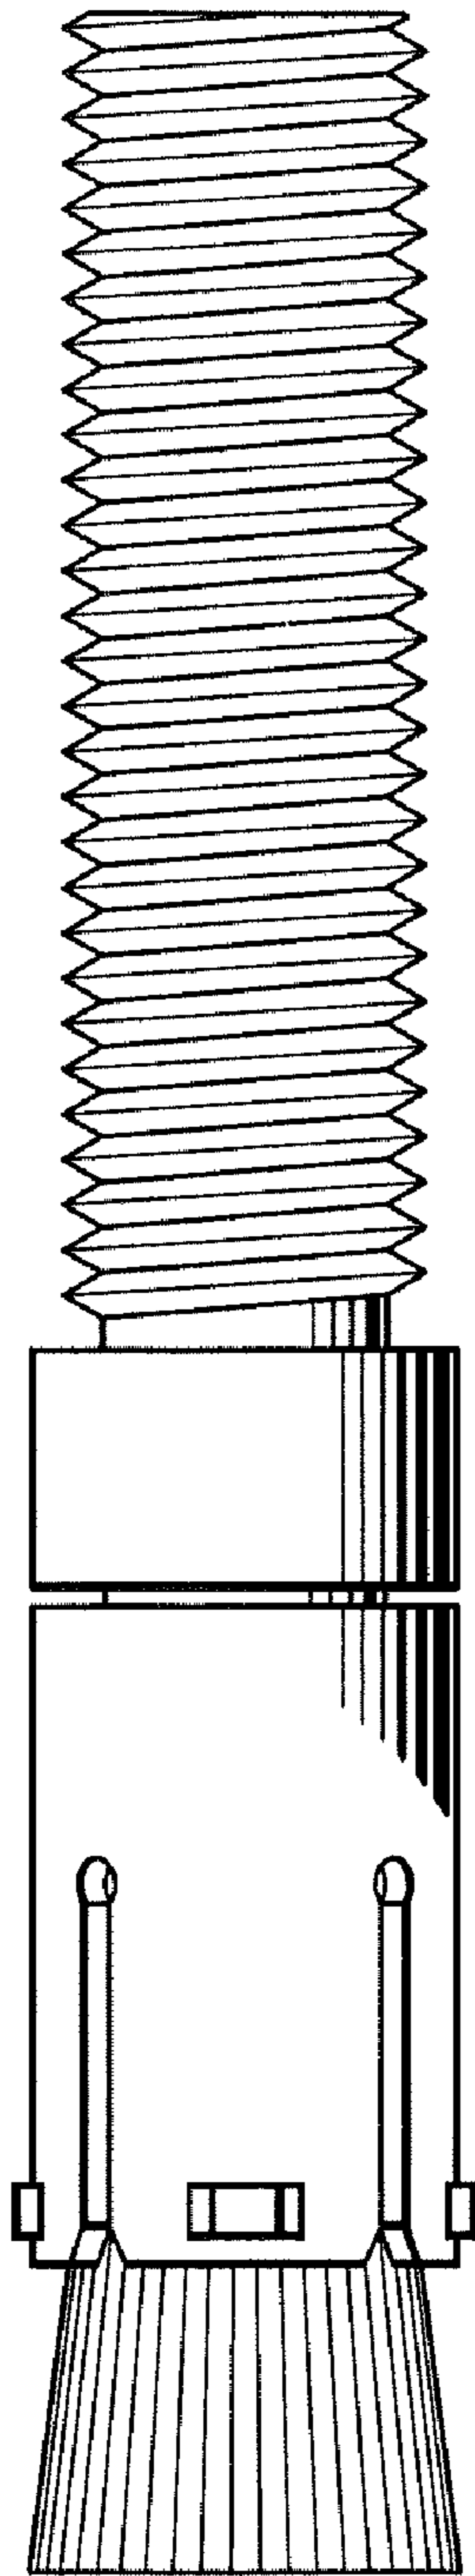

Fig. 13
- FIG. 13 is a front view of the stud having longitudinal ridges;